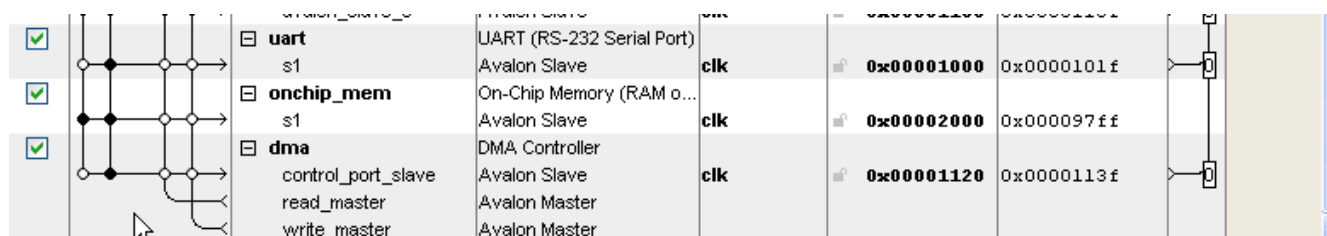

Figure 1-35: Connections column and transfer path
2. Move the mouse over the connections column, as Figure 1-35, the lines means the available paths of data transfers, a **solid dot** means the transfer path is made, a **hallow dot** means the path is not used.
3. Move the mouse over one of the dot, say the most right dot next to s1 of the on-chip me memory, as shown in Figure 1-35, says “**dma/write_master on-chip_mem/s1**” which means that by enabling this dot, the DMA controller can transfer data (as **writing**) to the on-chip memory through the memory port s1. Same rule applies to the dot at the left, which is used for reading out of the memory.